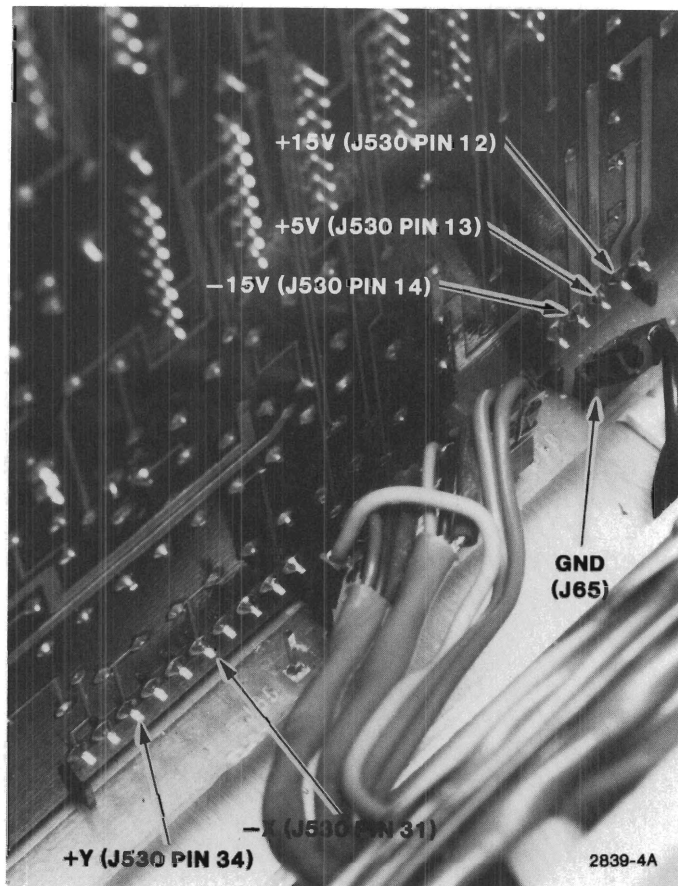

Figure 5-8. Power Supply Checkpoints.
4. Adjust the power supplies or check them by connecting a voltmeter between J65 (ground) and the pins on the Interconnect board called out in the following steps. The easiest place to measure some of the voltages is on the wide circuit runs directly behind J65 (Figure 5-8).
6. Check the 5V test point (Figure 5-8) for a reading of 4.85 to 5.15V at J530 pin 13.